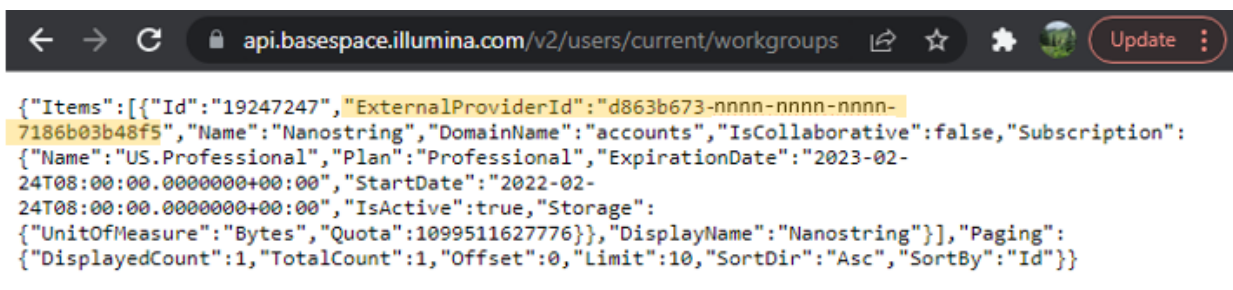

Figure 37: ExternalProviderID
- A list of workgroups will load. Identify the workgroup to which you wish to connect (**must be the same workgroup as selected in Step 6, above**) and note the ExternalProviderId (**see Figure 37**). Enter this alphanumeric code in the BaseSpace Workgroup ID field of the GeoMx DSP Control Center.